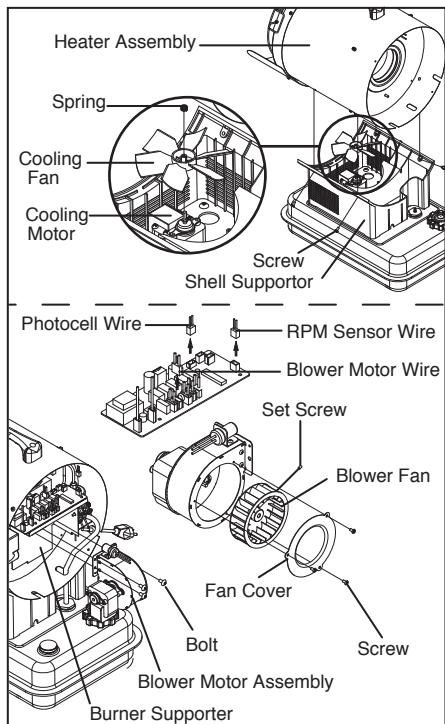

Figure 11. Fan Removal
- 2) Disconnect 3Wires from Control PCB.(See Figure 11)